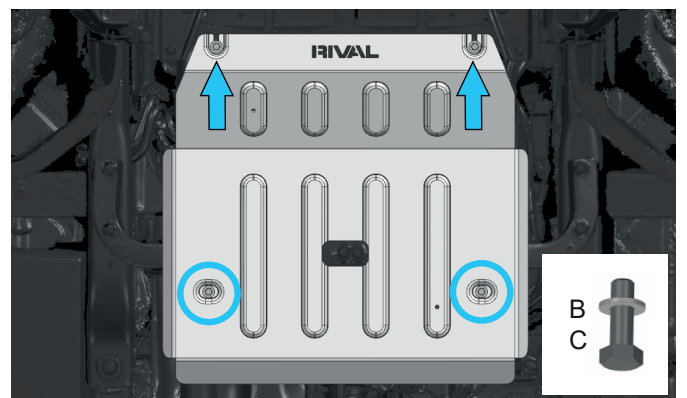

Fig. 6
5. Put the skid plate (item 1) on pre-installed bolts, then fix it to the brackets, using bolts M8x25 and washers M8 (item C, B), as shown in fig.6.